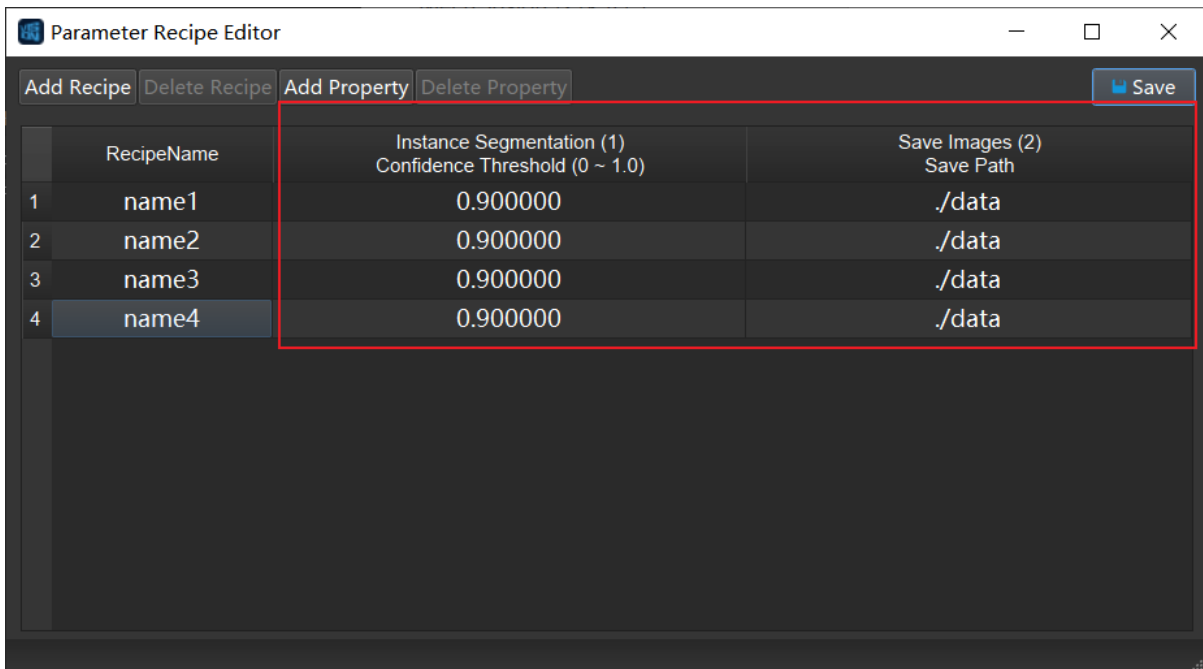

Figure 3. Initial Status Obtained
- Click *OK* to automatically obtain the initial status of the added step properties (input parameter type, input form, upper and lower limits, etc.), as shown in *Figure 3*.